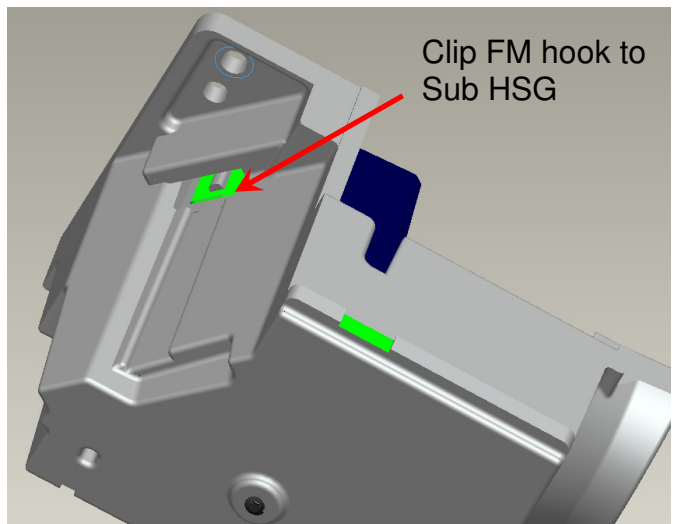

Fig. 2-6
- (3) Check Clip FM hook Sub HSG Well (Fig. 2-6)